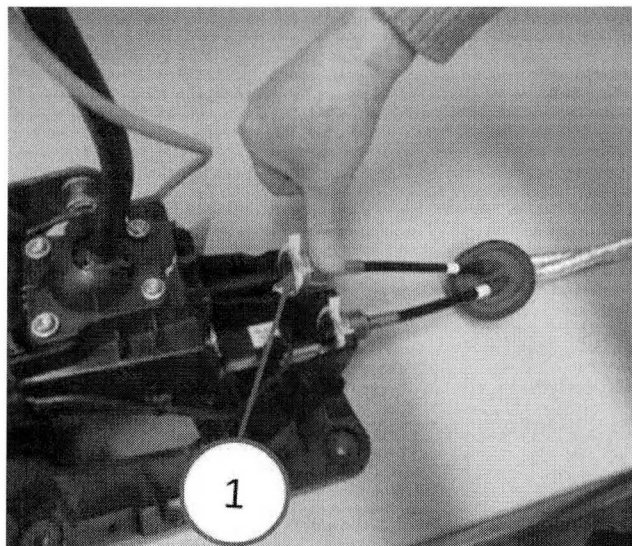

Fig. 4 Shift Module
8. To secure the cable, push downward on the can close to the clip until it snaps into place (Fig. 4)